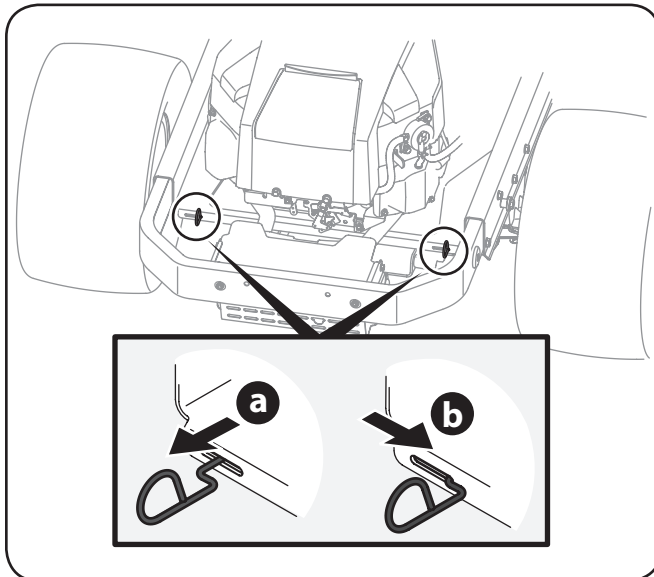

Figure 3-1
1. Engage the transmission bypass rods, one on each side of the tractor, to move the tractor manually without starting it. The transmission bypass rods are located on the rear of the tractor, just inside each rear wheel. Engage the bypass rods by pulling each one out (a) and to the right (b) to lock it into place. See Figure 3-1.
2. Disengage the bypass rods by reversing steps a & b after moving the tractor. See Figure 3-1.